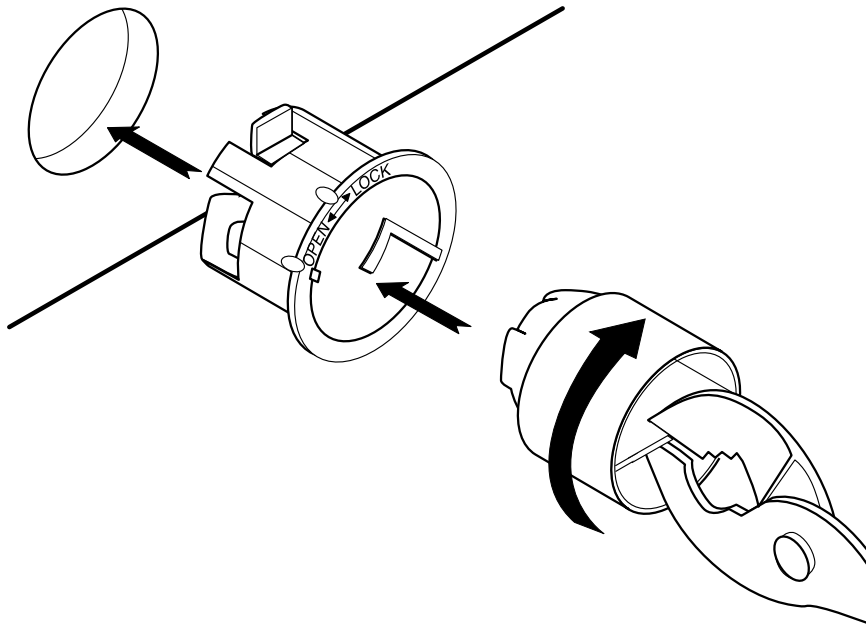

Figure A-20 Replace Plastic Lock Inserts
12. Use pliers to turn the plastic lock inserts clockwise until they lock, as shown in Figure A-20.